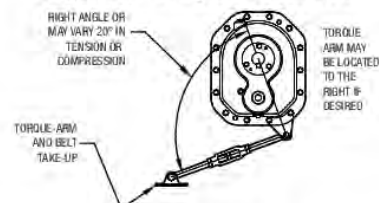

Figure 4 - Angle of Torque-Arm
- Install torque arm fulcrum on a flat and rigid support so that the torque arm will be approximately at right angles to the center line through the driven shaft and the torque arm anchor screw (Figure 4). Make sure that there is sufficient take-up in the turnbuckle for belt tension adjustment when using V-belt drive.